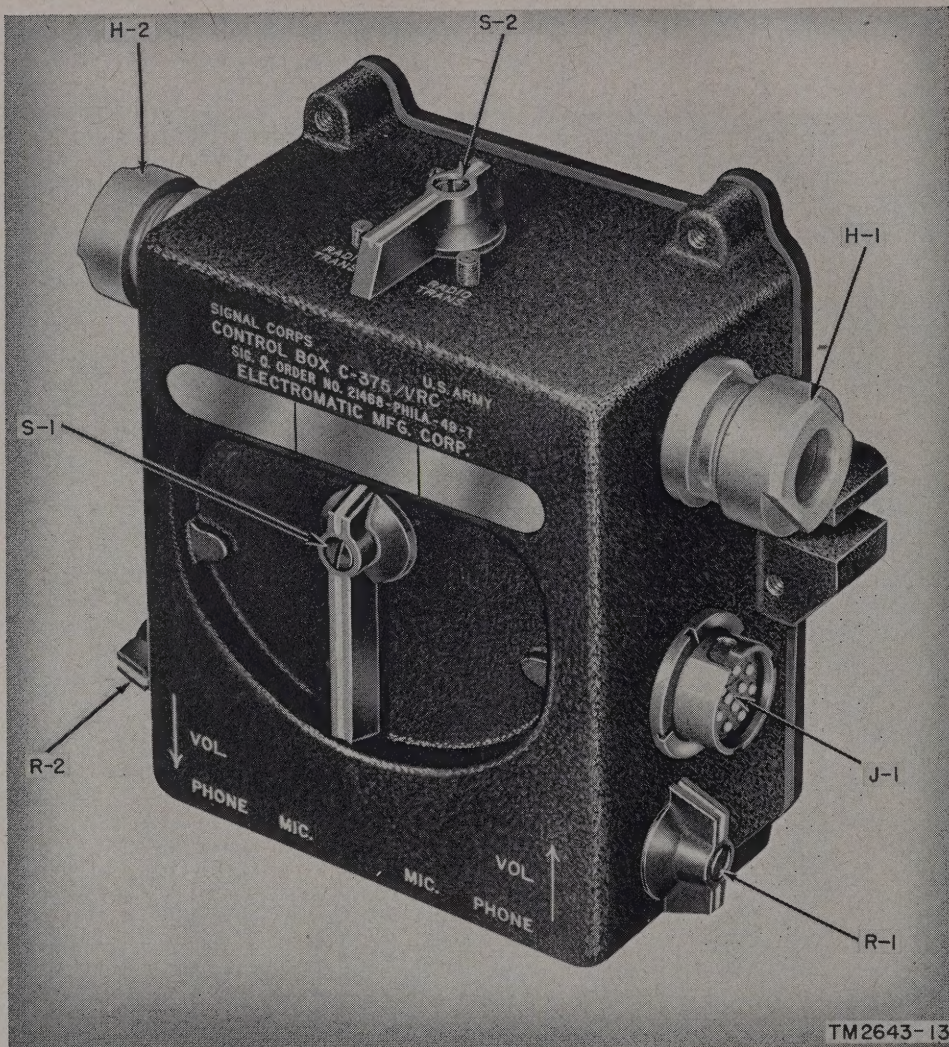

Figure 89. Control Box C-375/VRC, right oblique view.
b. Figures 89 and 90 show two views of Control Box C-375/VRC. Refer to appendix II for descriptions of the called-out parts.